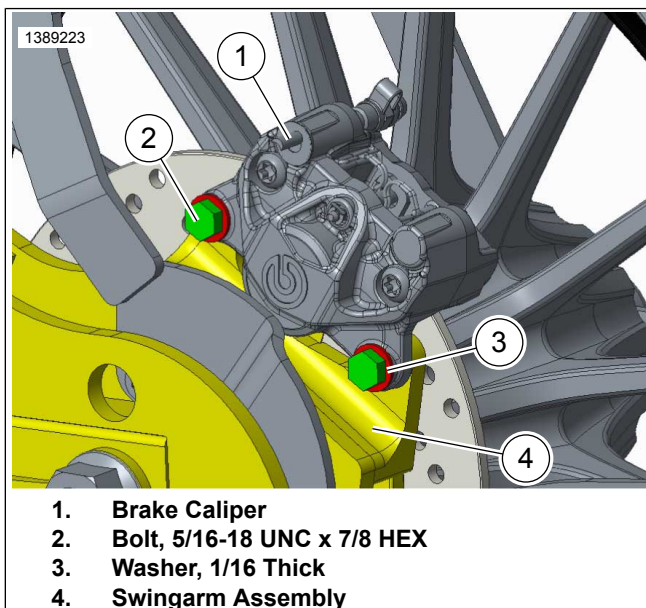

Figure 2-49. Mounting Caliper
1. See Figure 2-49. Slide caliper (1) over disc and locate onto swingarm (4) mounting hole using bolts and washers (2,3). Tighten to 15-25 ft-lbs (20-34 Nm).